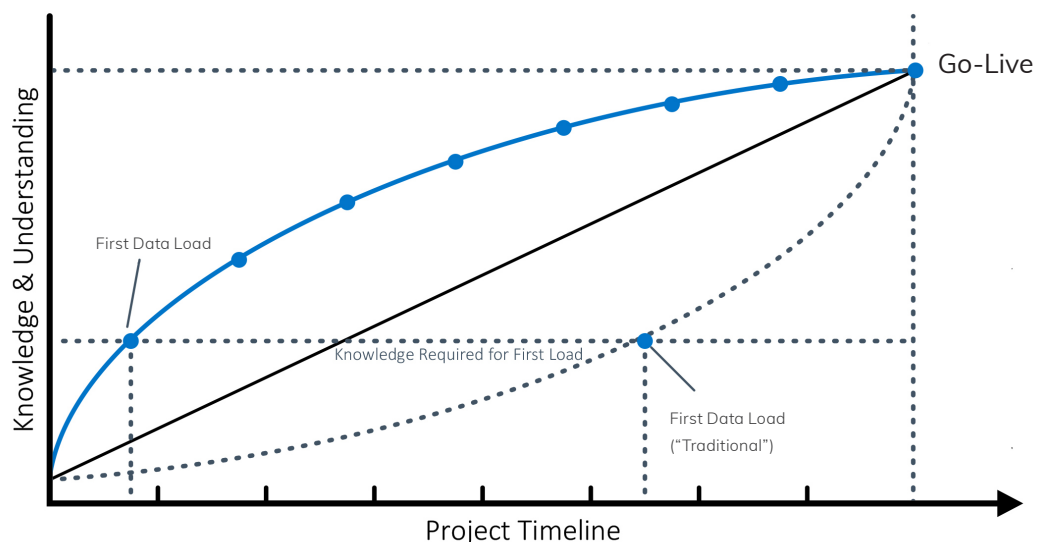

Figure 1
- Figure 1 below illustrates how knowledge and understanding of the data dramatically increases after the first data load test. This ensures that any tactical changes in the data cleanup efforts and conversion process can be implemented early on, rather than uncovering these issues late in the project and scrambling to have the data ready by go-live. This strategy of loading data early and often decreases overall conversion timeline risk and helps increase confidence heading into go-live.